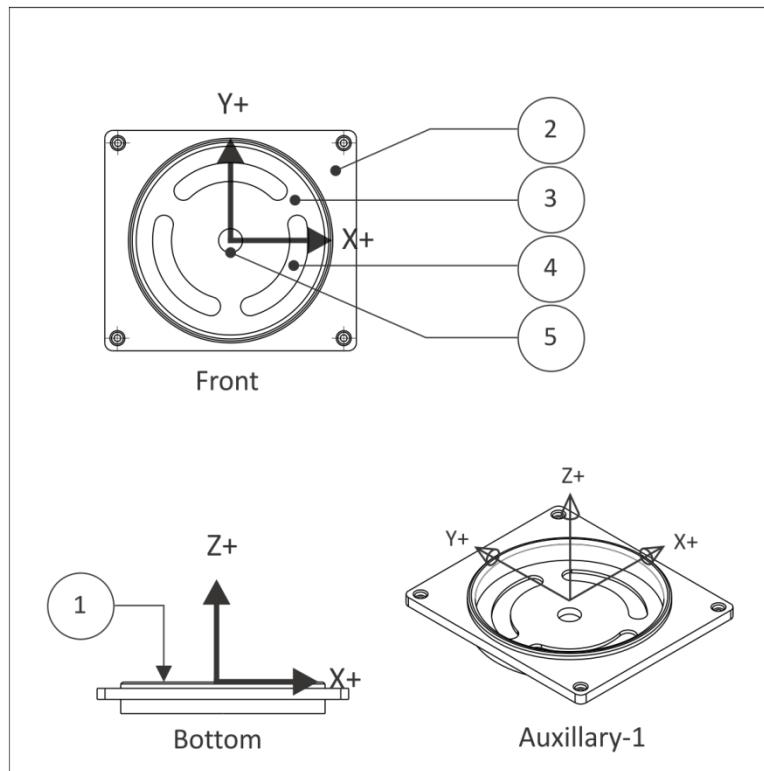
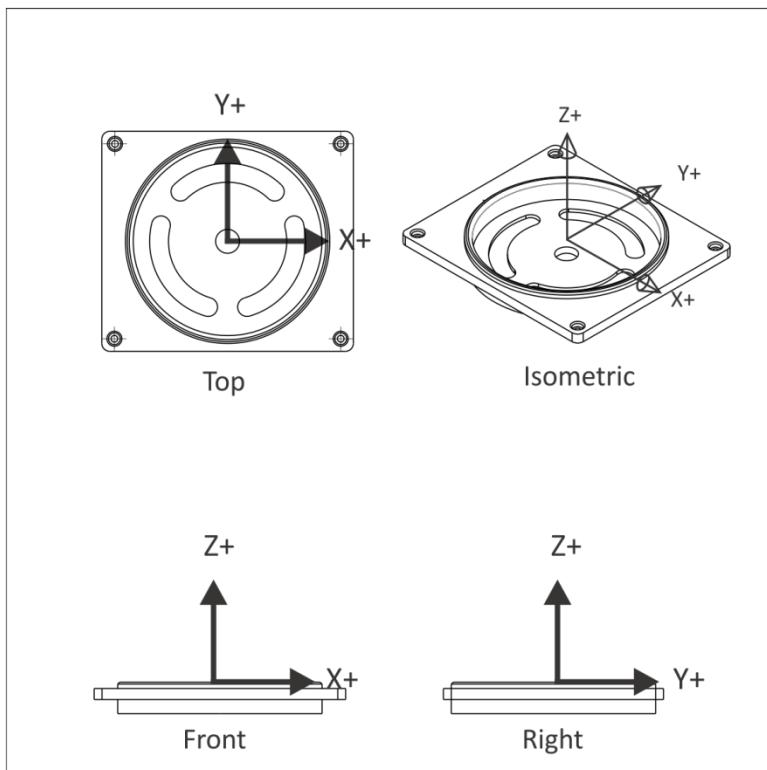

Figure 1: Prismatic Part (Orientation in CAD)
Figure 2: Prismatic Part (Orientation in CAM)
Figure 1 shows a prismatic part. All machined features lie parallel to the XY plane. Each Z-level can be machined by positioning the tool at a fixed Z-level and then moving the XY axes to remove material. There are several cutting planes in this example, including the model top (1), top of the face where the holes start (2), the bottom of the pocket (3) where the slots begin, the bottom of the slots (4), and the bottom of the hole through the center (5).
Figure 1 shows the part oriented as it is modeled in the mechanical CAD software. For CAM, it is helpful to display the part in the same orientation as viewed while sitting on the CNC machine. For a Vertical Machining Center (VMC) this requires updating standard views to look like those shown in Figure 2. The G-code file is generated in relation to the Work Coordinate System (WCS), so changing views is not required for CNC programming. It simply helps visualize CNC machining processes when using CAM.
In SolidWorks to switch views from CAD space (Figure 1) to CAM space (Figure 2) to the following:
1. Open the **View Orientation** dialog and select **Front** (view) so the part displays as shown in Figure 1.